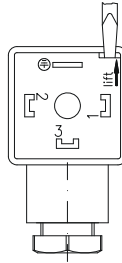

Fig. 8
- ↪ Open the core ⑧ of the cable socket ② with a screwdriver or similar tool (⇒ Fig. 8).